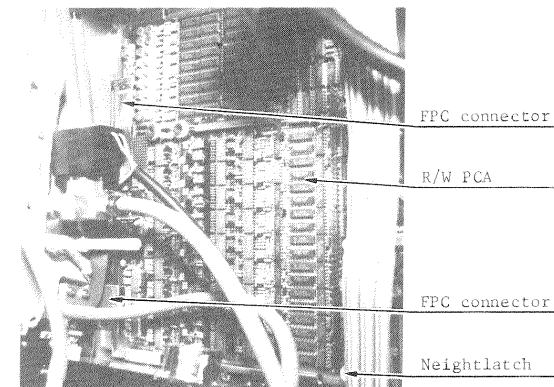

Fig. 2
2. Detach the following connectors, which are connected with Read/Write PCA on the back of the unit. (See Fig. 2.)